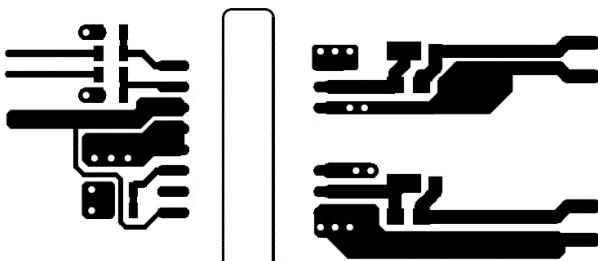
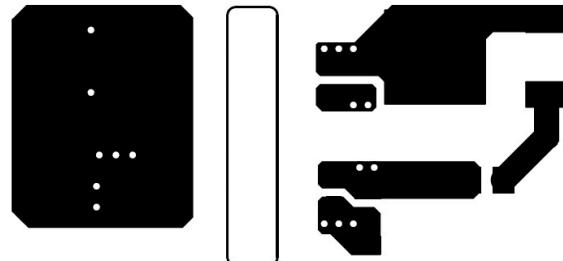

Figure 11-2. Top Layer Traces and Copper
Figure 11-3. Bottom Layer Traces and Copper (Flipped)
- Increasing the PCB copper connecting to VDDA, VDBB, VSSA and VSSB pins is recommended, with priority on maximizing the connection to VSSA and VSSB (see Figure 11-2 and Figure 11-3). However, high voltage PCB considerations mentioned above must be maintained.
Figure 11-2 and Figure 11-3 shows top and bottom layer traces and copper.